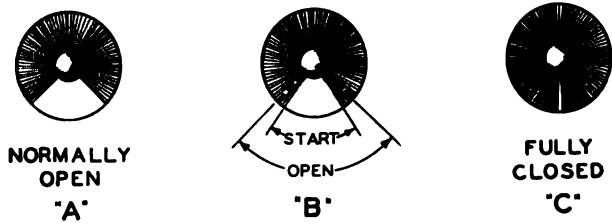

Figure 76. Tuning eye adjustments.
e. Adjust the EYE ADJ control on the wavemeter until the eye starts to close. Figure 76 shows
*c.* With the tuning handwheel at the setting it was left in, adjust the EYE ADJ control on the wavemeter until the eye starts to close (fig. 76).